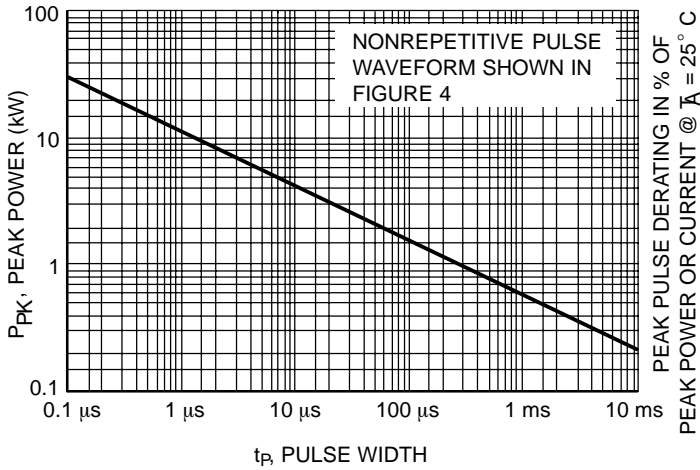
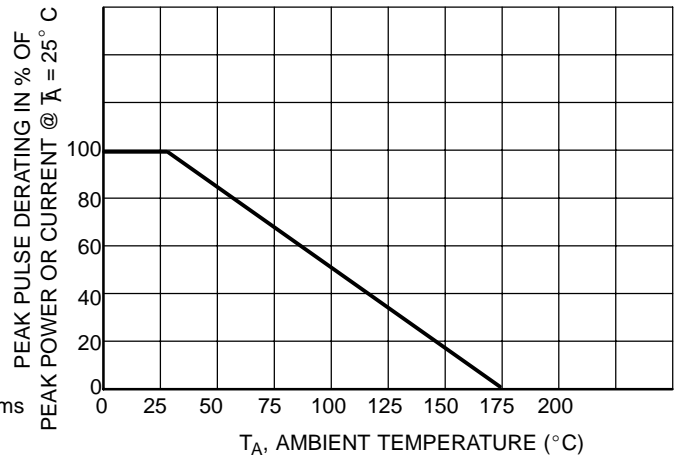
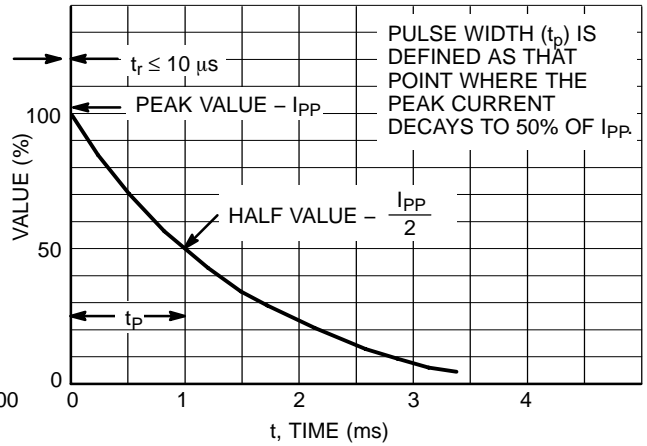
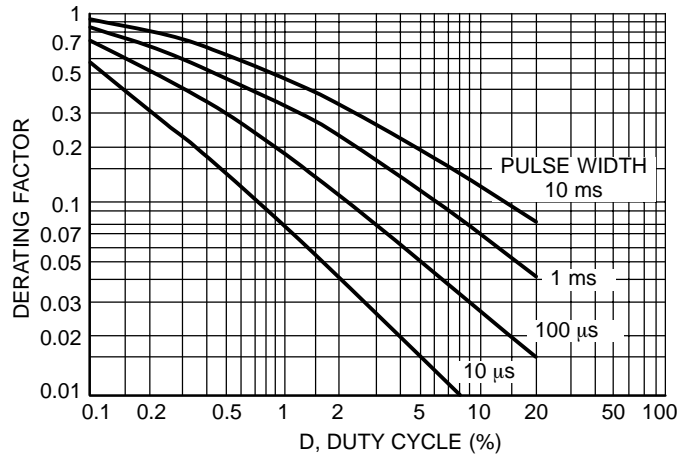

Figure 1. Pulse Rating Curve
Figure 2. Pulse Derating Curve
Figure 4. Pulse Waveform
Figure 6. Typical Derating Factor for Duty Cycle
1. Nonrepetitive current pulse per Figure 4 and derated above $T_A = 25^\circ\text{C}$ per Figure 2.
5. Surge current waveform per Figure 4 and derate per Figures 1 and 2.
The data of Figure 1 applies for non-repetitive conditions and at a lead temperature of 25°C. If the duty cycle increases, the peak power must be reduced as indicated by the curves of Figure 6. Average power must be derated as the lead or ambient temperature rises above 25°C. The average power derating curve normally given on data sheets may be normalized and used for this purpose.
At first glance the derating curves of Figure 6 appear to be in error as the 10 ms pulse has a higher derating factor than the 10 μs pulse. However, when the derating factor for a given pulse of Figure 6 is multiplied by the peak power value of Figure 1 for the same pulse, the results follow the expected trend.